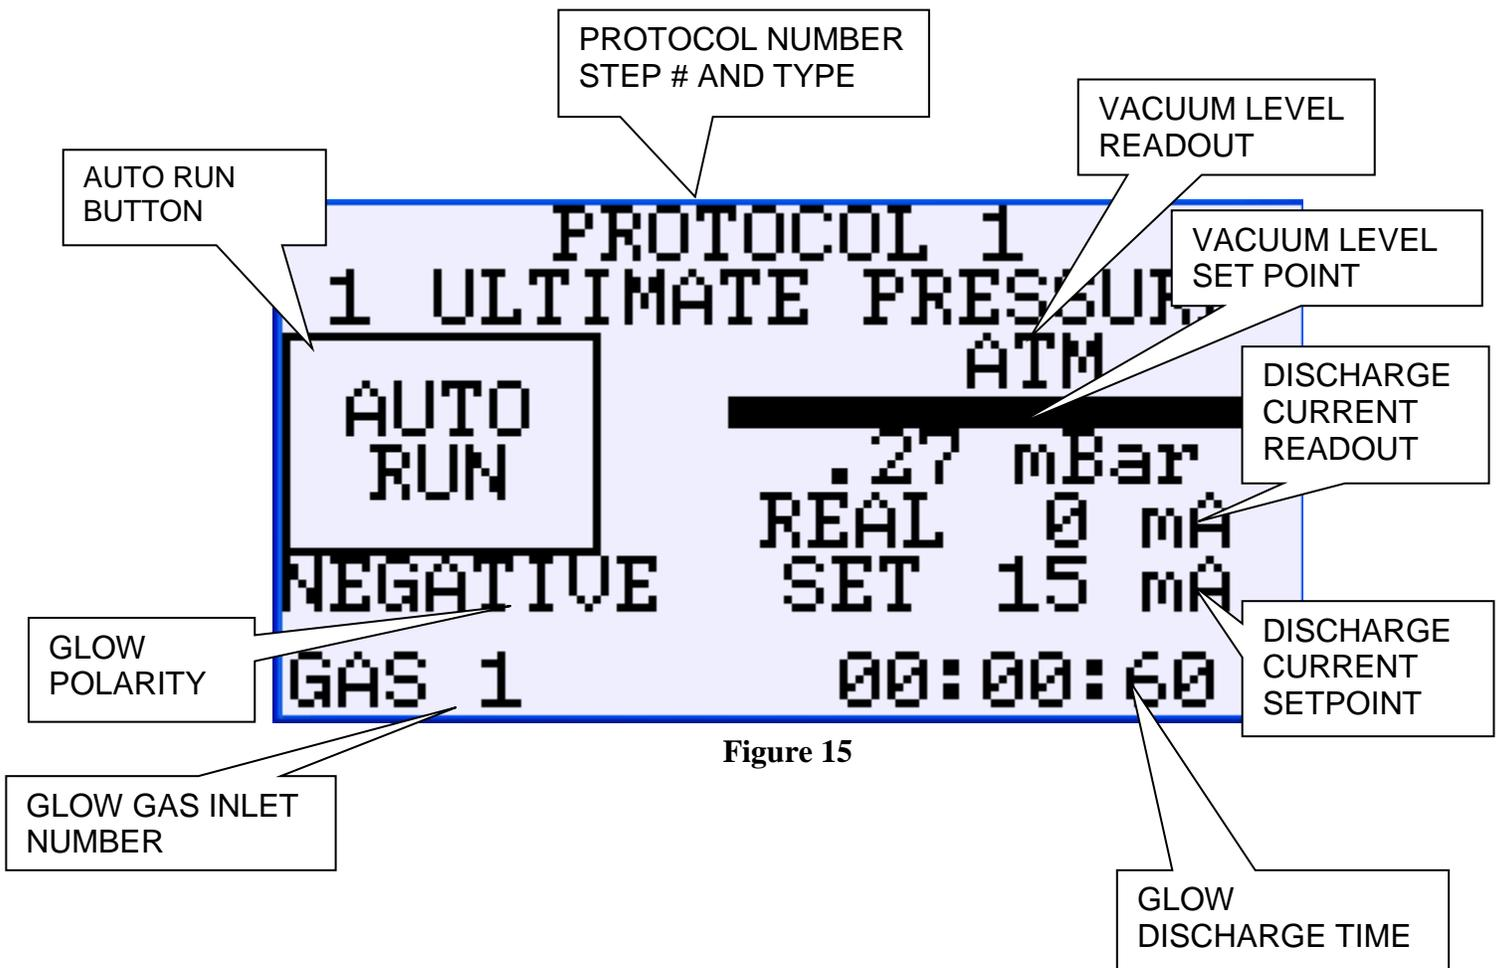
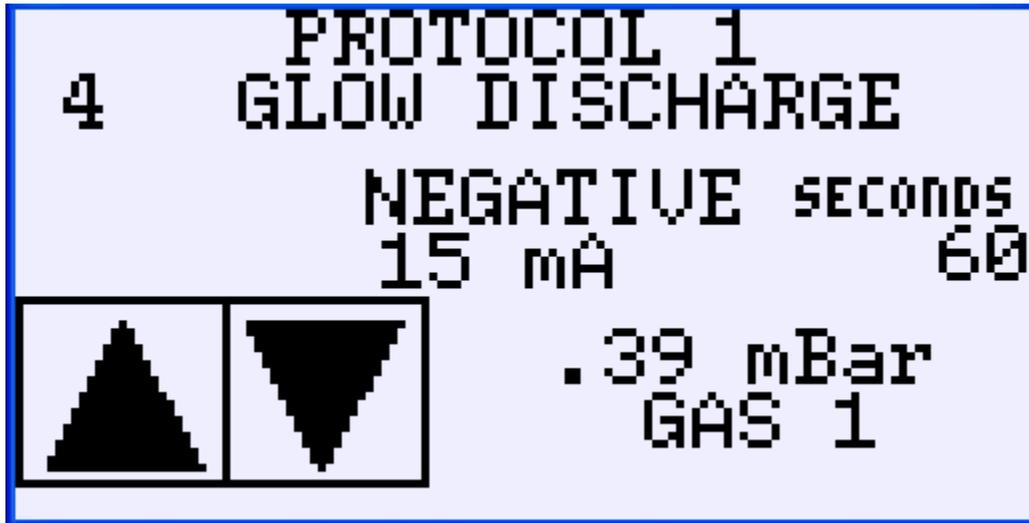

Figure 15
Figure 18
Touch the **RUN SCREEN** button to bring up the **PROTOCOL 1 AUTO RUN** screen (Figure 15). Touch the **PROGRAM SCREEN** button to bring up the protocol step screen that allows changes in programming (Figure 18).
The information on the screen changes depending on the type of step chosen when programming. The step number is displayed in the upper left corner of the screen and is step 4 on the screen shown in figure 18. The up and down arrows can be used to change the step displayed and thus view the programmed protocol.
2. Touch the **PROGRAM SCREEN** button to bring up the protocol step screen which allows changes in programming (Figure 18).
8. Touching the **SAVE PROGRAM SETTINGS** button or pressing the **Next** function button returns to the protocol step screen (Figure 18) where the settings can be confirmed and the next step can be selected.